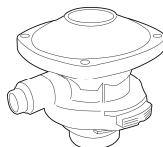

Figure 4
- SA 5000 (Figure 4)
- SA 5000 Zénith (Figure 4)